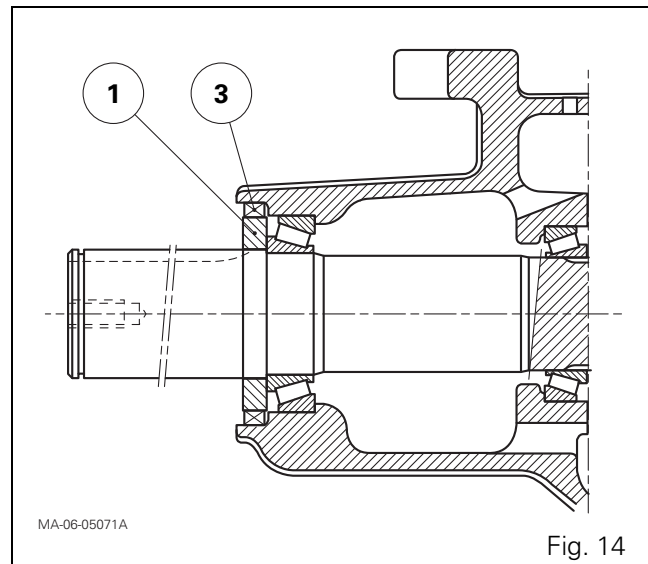

Fig. 14
41. Clean the seal position on the trumpet housing and ring (1) (Fig. 14).
42. Lightly smear the outer rim of the cassette seal (3) with Loctite 648 or equivalent. Lubricate its inner rim lightly with clean transmission oil (Fig. 14).